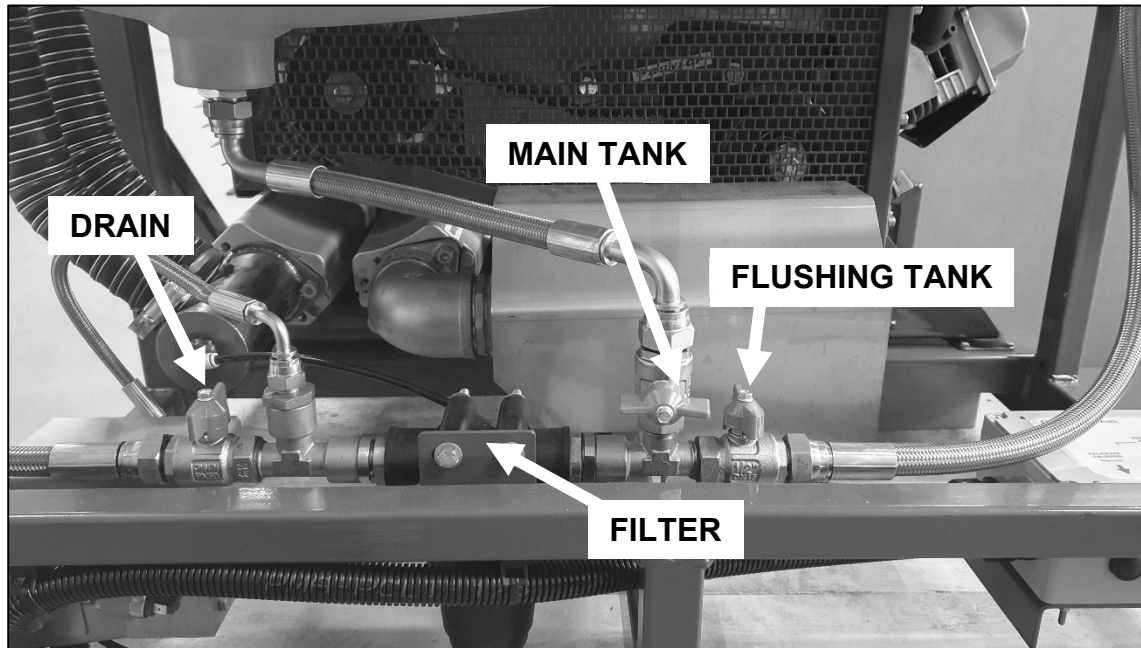

Fig. 2 – Valves & Filter Under Tank
1. Ensure that the ***Drain*** valve is CLOSED, the ***Main Tank*** valve is OPEN, and the ***Flushing Tank*** valve is closed – see Fig. 2. Note that all valves are closed when the handle is at right angles to the valve body and open when the handle is parallel with the valve body.